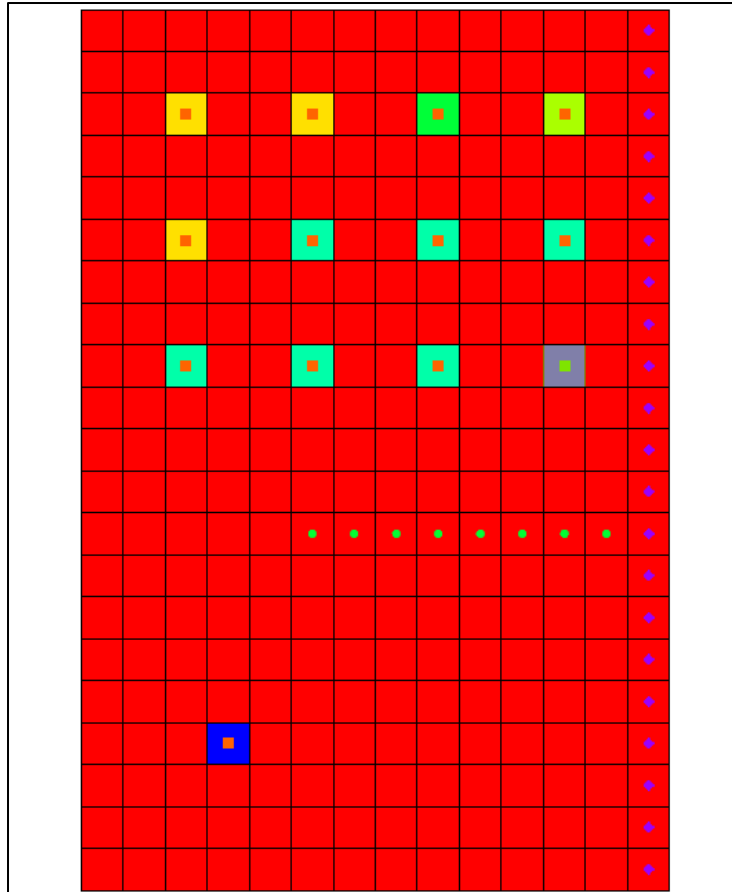

Figure 7 MNW boundary condition cell
5. Select the “ MNW” dataset and change the active time step to the second time step listed in the Time Step Window below the Project Explorer, as shown in Figure 7.
6. Select the cell highlighted in dark green as in Figure 7 (bottom right cell of the group of wells, Cell ID: 124), then right-click and select **Sources/Sinks...** to bring up the *MODFLOW Sources/Sinks* dialog.